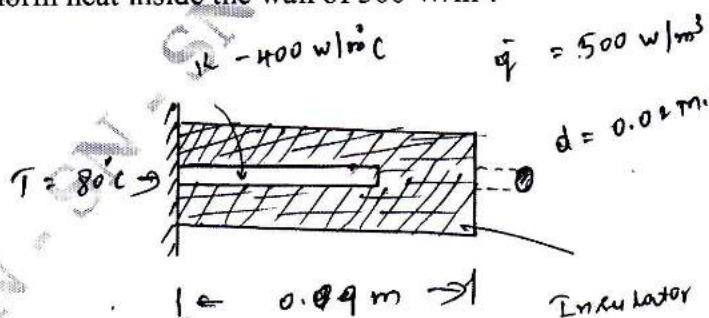

Fig. Q10 (b)
- b. Determine the temperature distribution in a one dimensional fin shown in fig.Q10 (b). There is a generation uniform heat inside the wall of 500 W/m^3 .